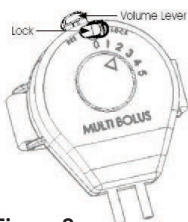
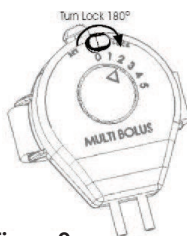

Figure 8
Figure 9
- Select the MultiBolus volume by aligning the arrow with the digit by moving the lever (See Figure 8), secure the selected volume by turning the lock 180° (See Figure 9).